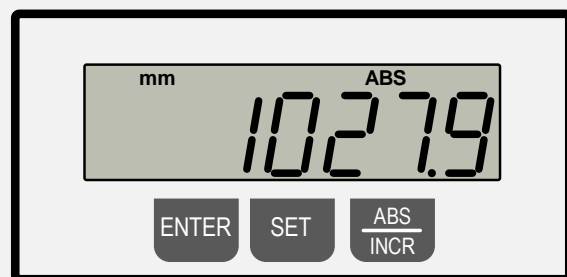

Figure 72: Display deviating from reference dimension
- Release both buttons and move the flip stop by hand until it has reached the **exact scale dimension of 1000.0 mm on the ruler**. In this example, a deviating value of 1027.9 mm is shown in the digital display (see ⇨ Figure 72).